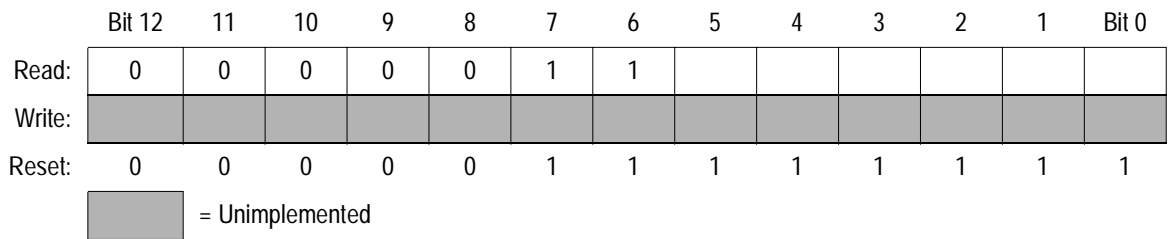

Figure 3-4. Stack Pointer (SP)
The stack pointer (SP) shown in Figure 3-4 is a 13-bit register that contains the address of the next free location on the stack. During a reset or after the reset stack pointer (RSP) instruction, the stack pointer initializes to \$00FF. The address in the stack pointer decrements as data is pushed onto the stack and increments as data is pulled from the stack.